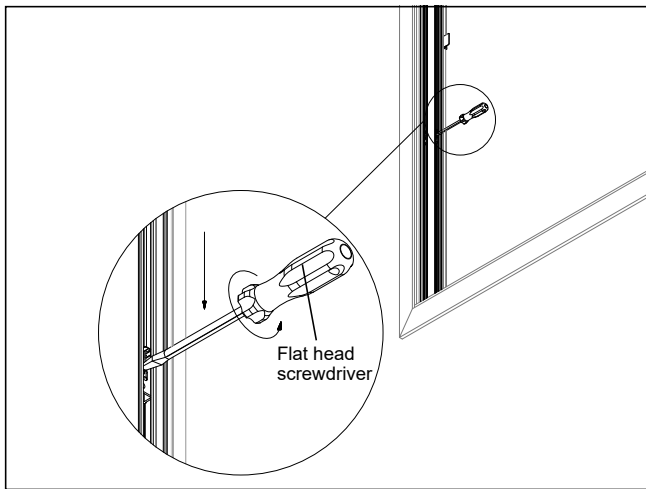

Figure 7
- Using a flat screwdriver and holding it **firmly**, pull down the four locking terminal assemblies located in the vinyl jamb liners (2 per liner), approximately 8I-10I (203-254) from the sill. See figure 7. Engage in locked position by rotating the top of screwdriver toward interior. **Be sure terminals are in the locked position before letting go.**